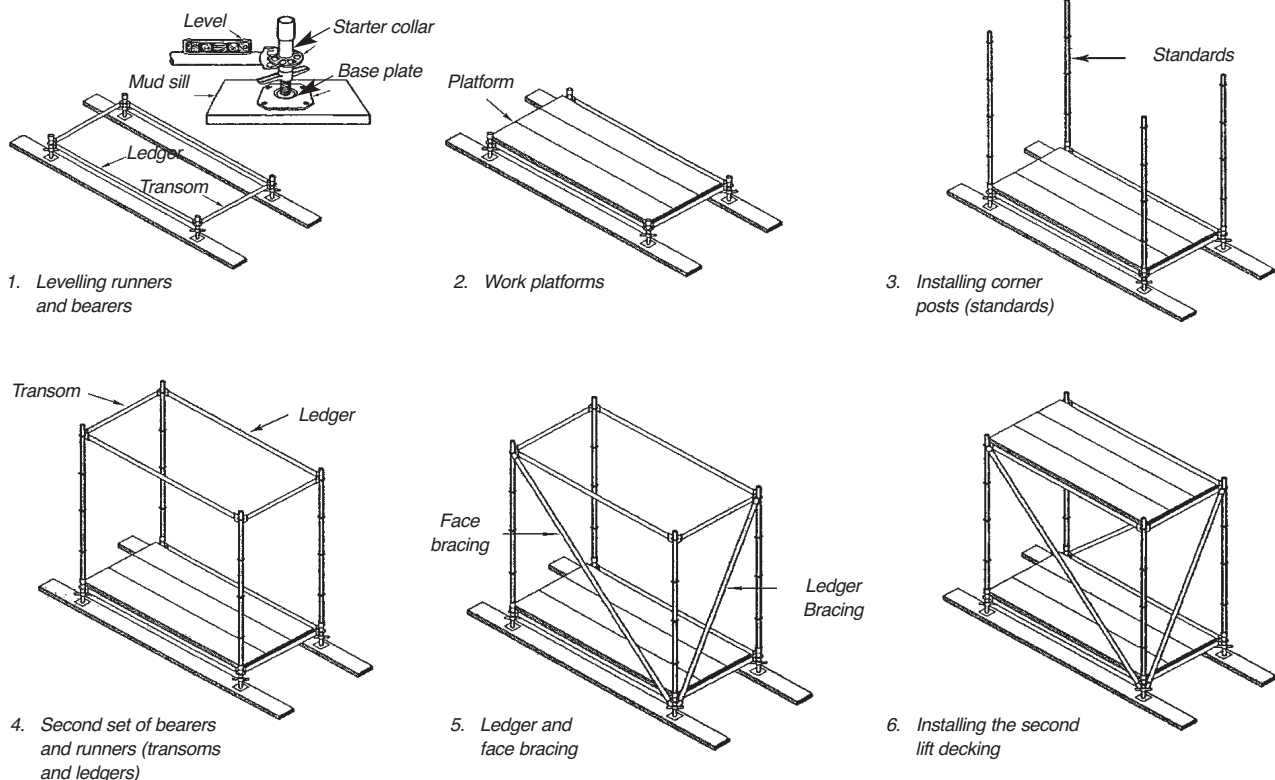

Figure 6.10
**Starter Collars** are short standards with one set of system rings or rosettes attached. They are convenient to use because they allow one person to put the first set of transoms and ledgers in place easily (Figure 6.10).
Figure 6.10 outlines the typical erection procedure for systems scaffold.